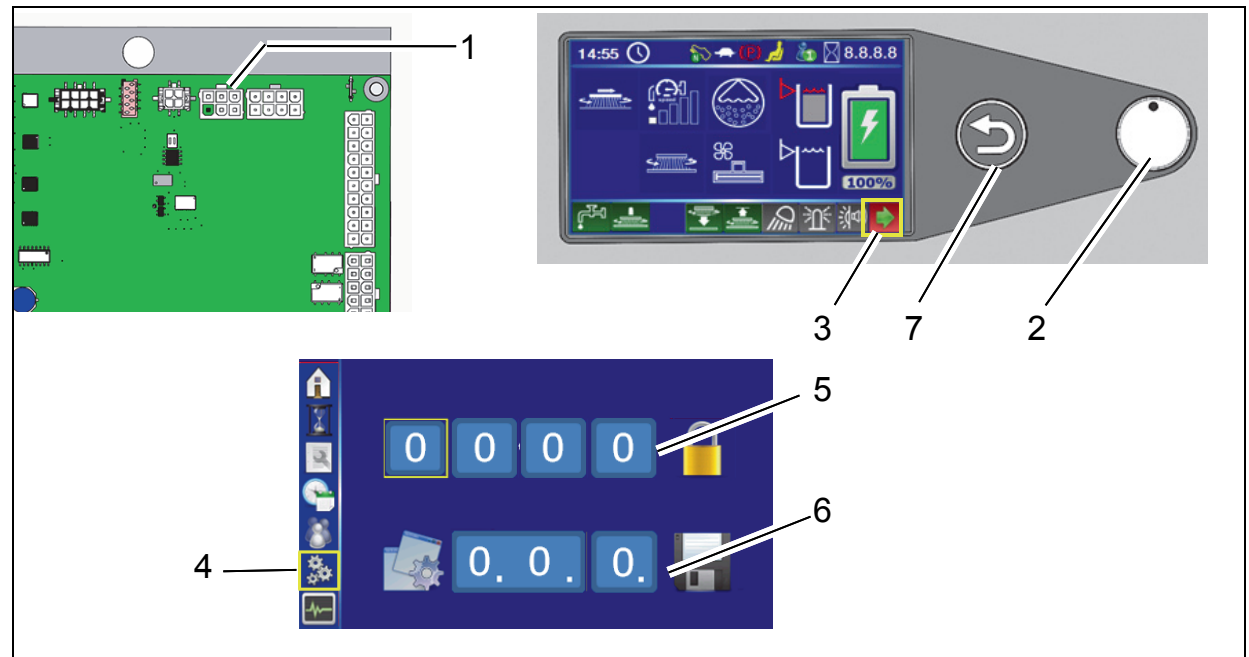

Fig. 3
Plug diagnosis plug into slot X20 of controller A1 (Fig. 3/1).
2. Select the arrow soft key (Fig. 3/3) on the control panel using the turn-push knob (Fig. 3/2) and press to access the sub-menu.
3. Select the configuration menu in the sub-menu (Fig. 3/4).
4. Enter the 4-digit code in the configuration menu at the top (Fig. 3/5):
5. In the configuration menu at the bottom (Fig. 3/6), set the value of the option and save by pressing the turn-push knob. After confirming the last digit, OK? appears. Press the turn-push knob again to save the value. Saved value is displayed in green. If the value is not to be saved, exit menu using the return key (Fig. 3/7).